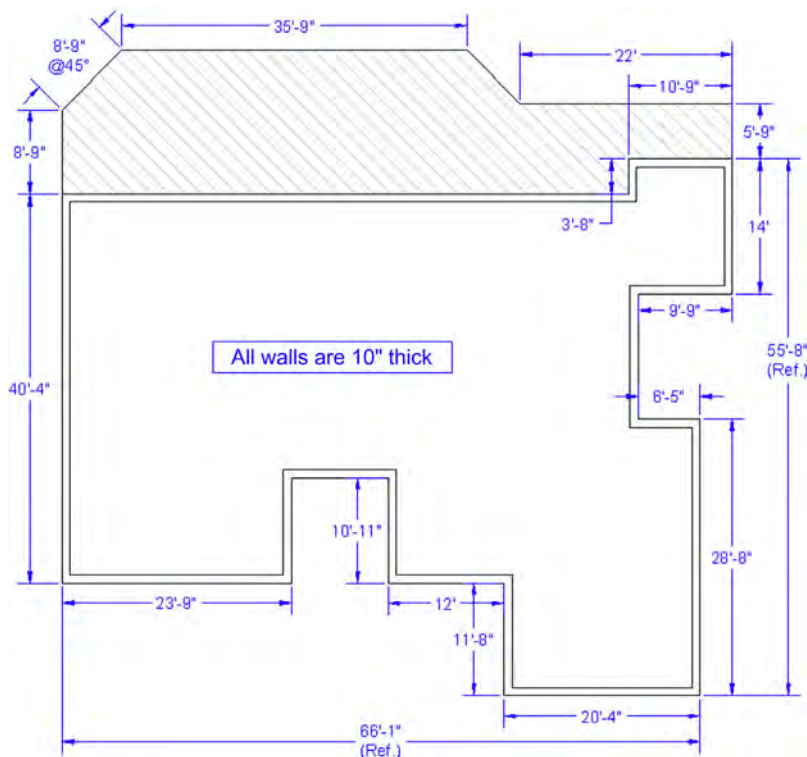

FIGURE 11.36
Step 3. Draw the floor plan shown in Figure 11.36. The dimensions are not just for your reference anymore; you also need to draw them in. They serve as checks on your design. Use the proper layers and consistent colors. When done and you are sure everything is correct, freeze the dimensions. It should take you about 30 minutes or less to set up and complete this design.